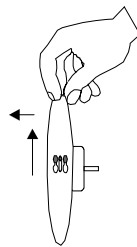

Figure 3-14. Pull wheel up and out to remove
3. Pull up on the wheel to slide the large ends of the keyhole slot over the hex screw heads, and pull out to remove the wheel (see Figure 3-14).